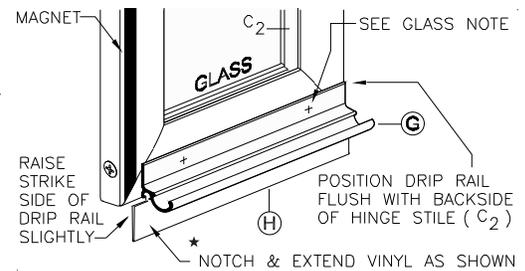
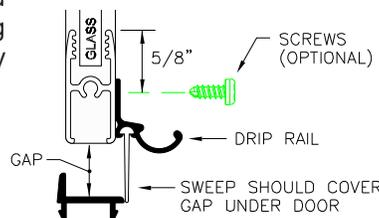
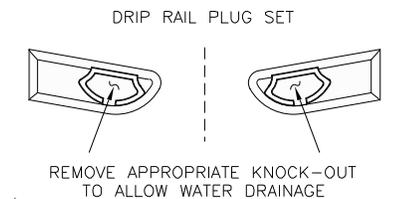

figure 6
figure 8
figure 7
8. Notch and extend Vinyl Sweep (H) pass Drip Rail edge as shown in figure 6. Attach Drip Plugs (I) onto Drip Rail (see exploded view - sheet 1), **be sure to remove the knockout on the hinge side drip plug so the water will drain** (see figure 7). Clean bottom rail of door with alcohol to remove any oil. Failure to clean door rail prior to installation of Drip Rail (G) may cause tape to release. Remove backing from tape and position Drip Rail flush with backside of Hinge Stile (c2) as shown in figure 6. Sweep should cover gap at bottom of Door as shown in figure 8. Slightly elevate Drip Rail at strike side prior to securing to create a sloping effect.